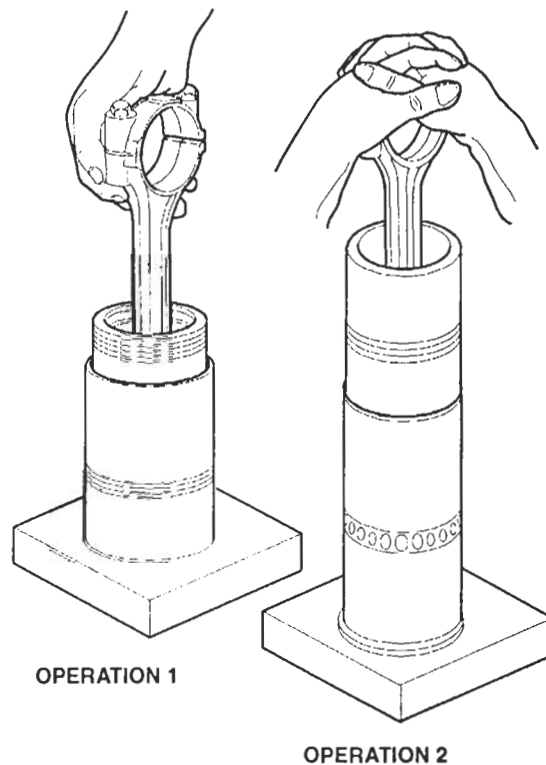

Figure 9. Piston and Connecting Rod Assembly in Ring Compressor and Cylinder Liner
4. Start the top of the piston straight into the ring compressor. Then, push the piston down until it contacts the wood block (Figure 9.)
6. Place the ring compressor and the piston and connecting rod assembly on the liner so the numbers on the rod and cap are aligned with the match-mark on the liner (Figure 9.)